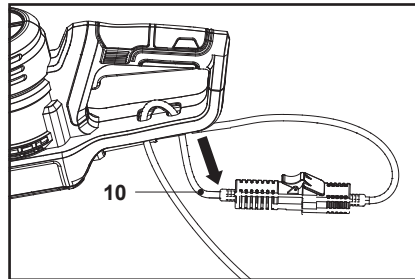

Fig. 4
3. Pull the power cord (10) over the cord retainer (11) and gently tug on the power cord (10) to ensure that it is firmly secured (Fig. 4).